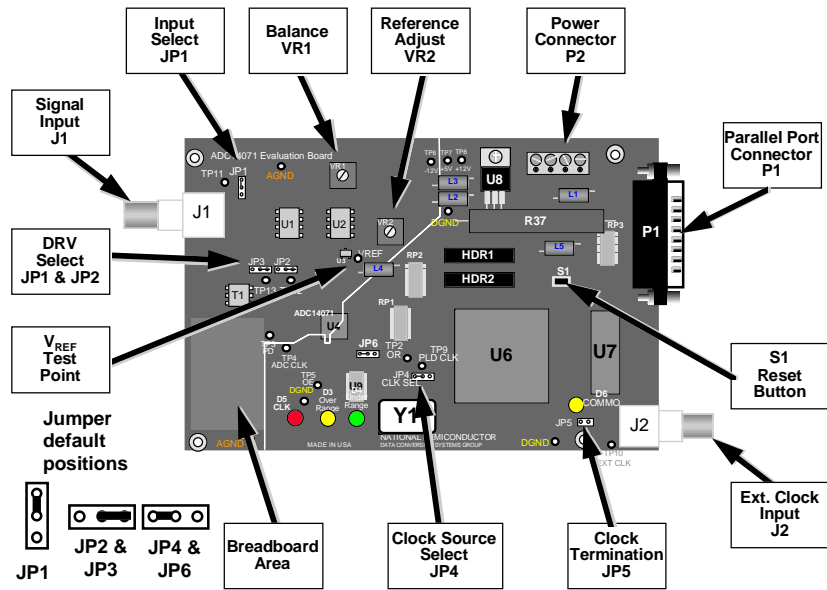

Figure 1. Component and Test Point Locations
1. Unless the ADC14071 Evaluation Board has been pre-assembled, it needs to be assembled before operation. Refer to *Figure 1* for the location of major components on the board. Refer to section 8.0 for the bill of materials.
3. Position jumpers JP4 and JP5 to their default position as indicated in *Figure 1*. Position jumpers JP1, JP2 and JP3 opposite to their default positions.
Refer to *Figure 1* for locations of connectors, test points and jumpers on the board.
Refer to *Figure 1* for locations of connectors, test points and jumpers on the board. If at any time the expected response is not obtained, see section 4.2.6 on Troubleshooting.